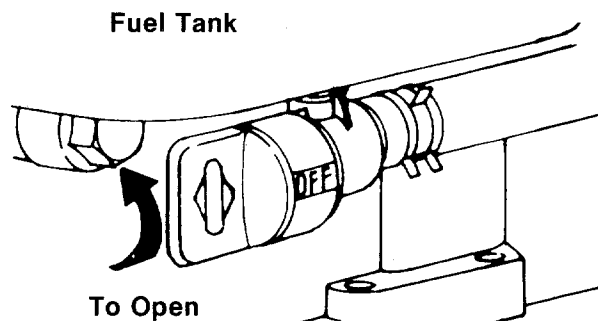

FIGURE 19.
5. Open fuel shut-off valve, located beneath the fuel tank. See figure 19.